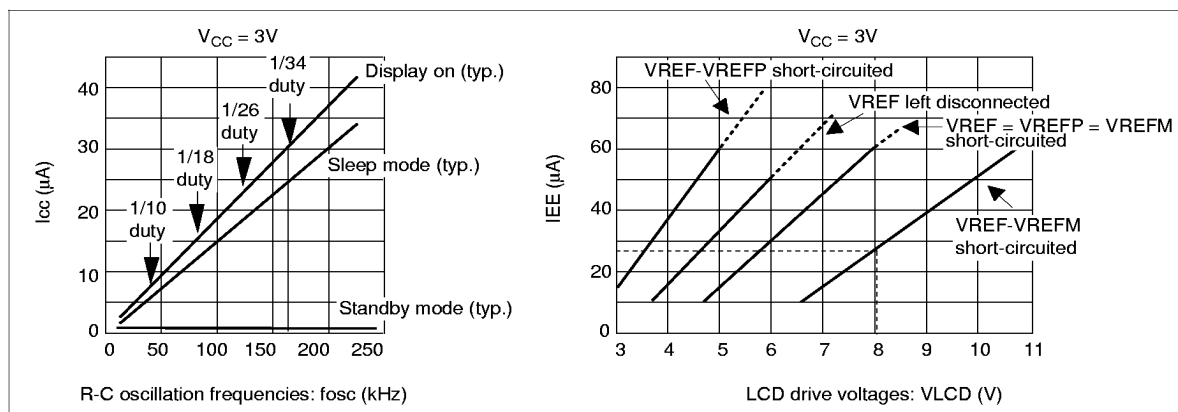

Figure 52 Relationship between the Operation Frequency and Current Consumption
11. The following shows the relationship between the operation frequency (f_{osc}) and current consumption (I_{CC}) (Figure 52).